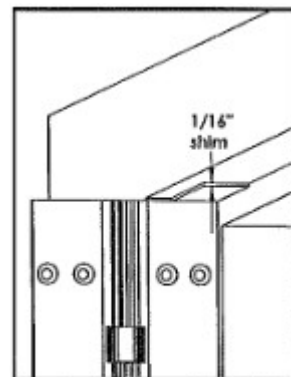

Fig. 1
1. With the hinge open, place the frame leaf against the frame making certain that the alignment rib is flush against the face of the frame along its entire length. Position the top of the hinge 1/16" (1/8" maximum) below the header. Note: A 1/16" shim is recommended due to initial settling of the bearings. (See Fig.1)